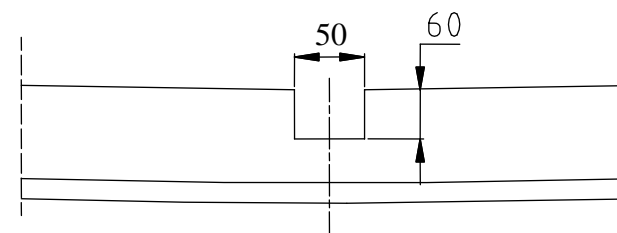

Fig. 2
3. According to drawing fix loosely elements (pos. 4 and 5), use washers (pos. 7 and 8).
4. To rear part fix the main bar of the towbar (pos. 1) using elements (pos. 6), which should be placed between rear part of car and bar of towbar.
5. Fix bumper after cut out its fragment – see fig. 2.